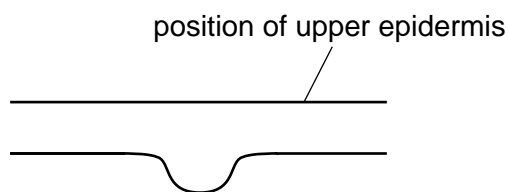

Fig. 2.2
- (ii) Observe the upper epidermis of the leaf on **J1**. The position of the upper epidermis is shown in Fig. 2.2.